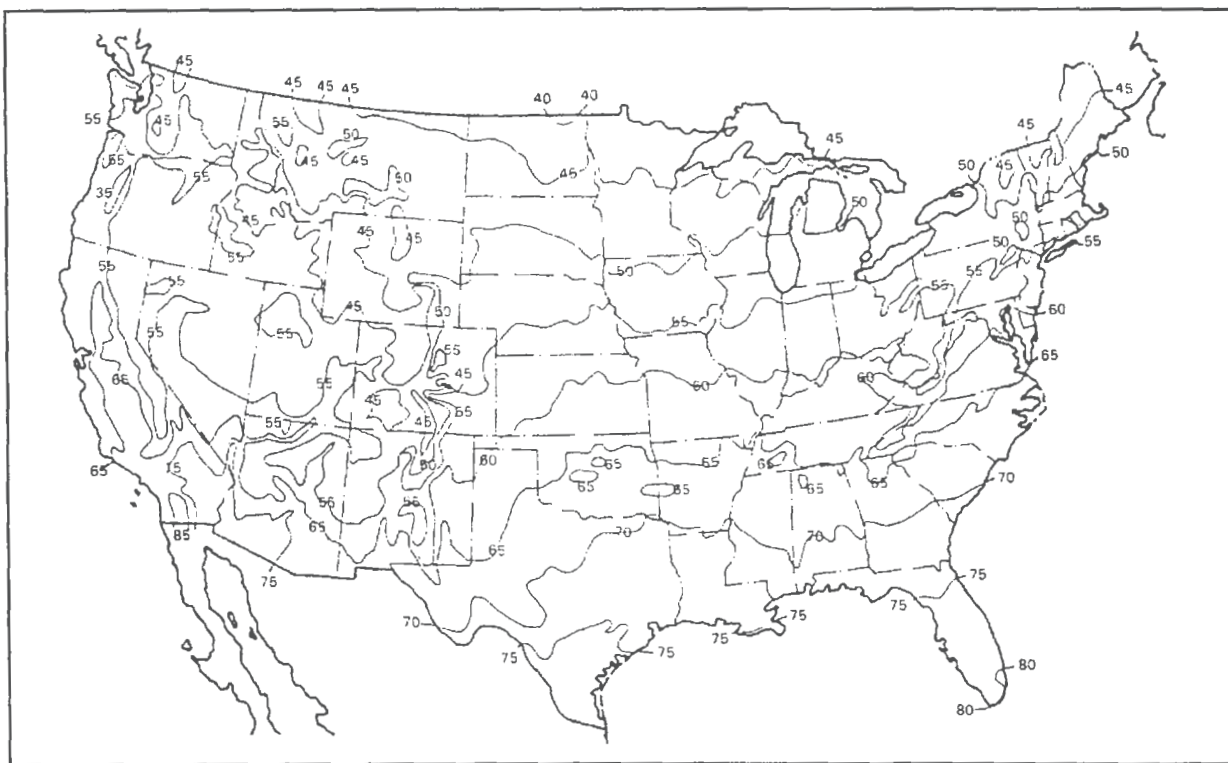

Figure 1. Average storage temperatures for the U.S. used to estimate breathing losses.
3. See Figures 1 and 2 for T_s and T_{dc}